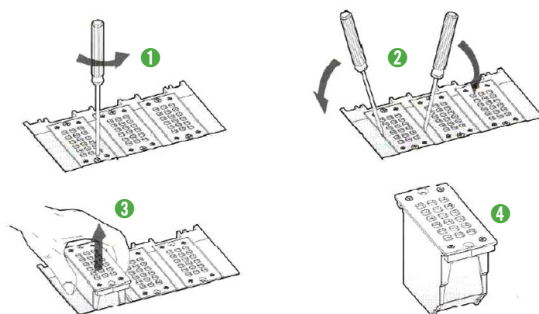

Fig1. Separate procedure of Arc chamber
2. Separate the arc chamber by lifting it up using two screw drivers as shown in fig.1 below.